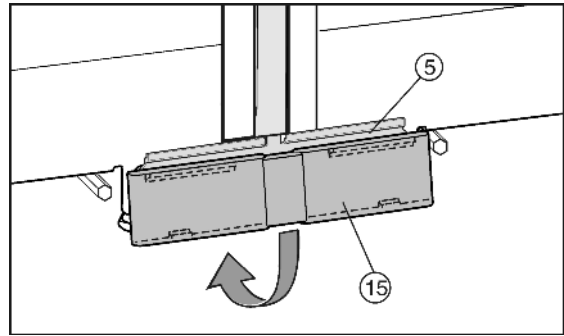

Fig. 11
- ▶ Fit the bottom cover Fig. 11 (15) from above onto the joining plate Fig. 11 (5) and snap it in at the bottom.